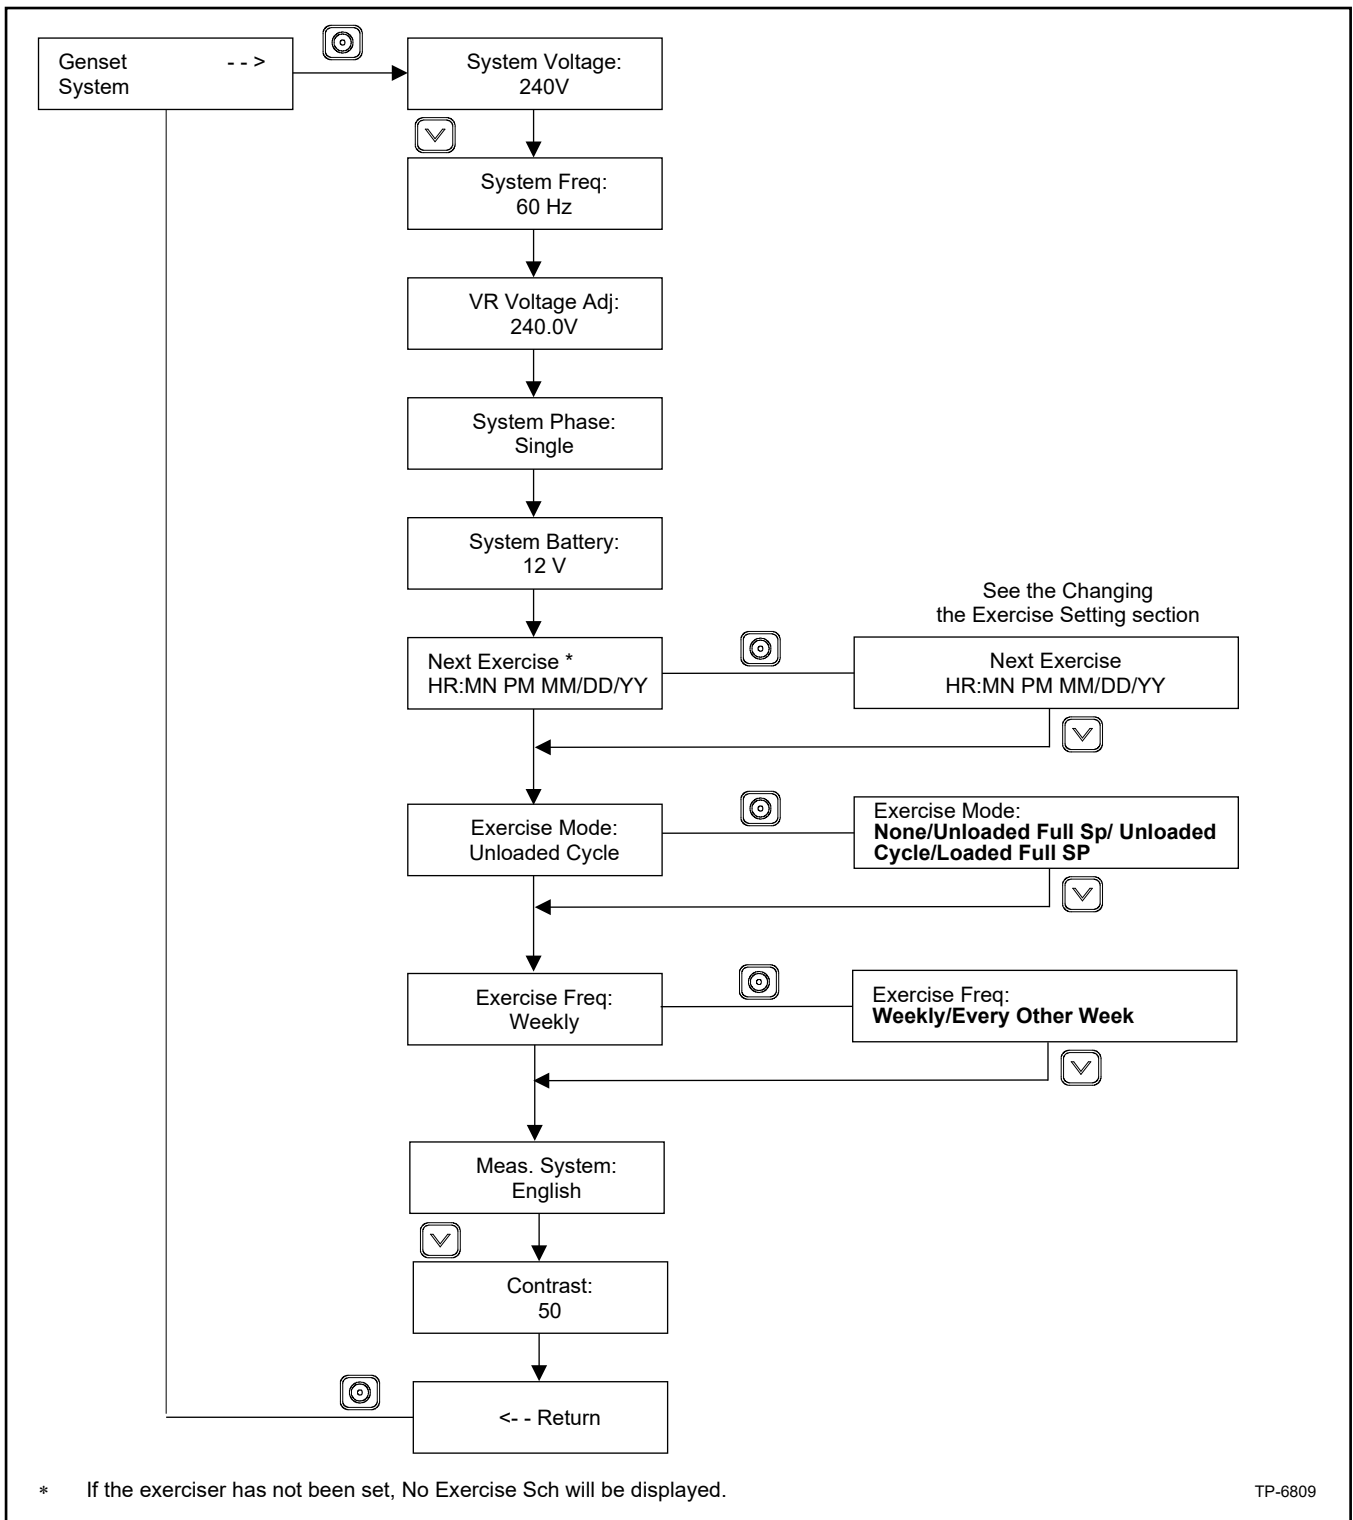

Figure 8 Procedure to Set the Exerciser
Set the date and time on the controller before setting the exercise schedule. Set the exerciser to automatically run the generator set for 20 minutes every week or every two weeks. Follow the procedure below and see the flowchart in Figure 8 to set the exercise time and date, mode, and frequency.
4. Press the Select button to enter the Genset system menu. See Figure 8.
11. If the generator set is connected to a Model RXT transfer switch, the exercise can be changed to a loaded exercise. Set the Exercise Mode to loaded full speed, unloaded full speed, or unloaded cycle as shown in Figure 8.